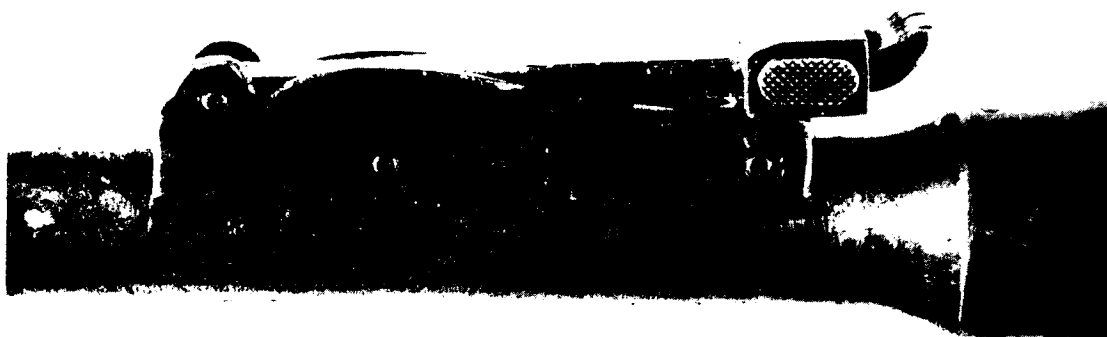
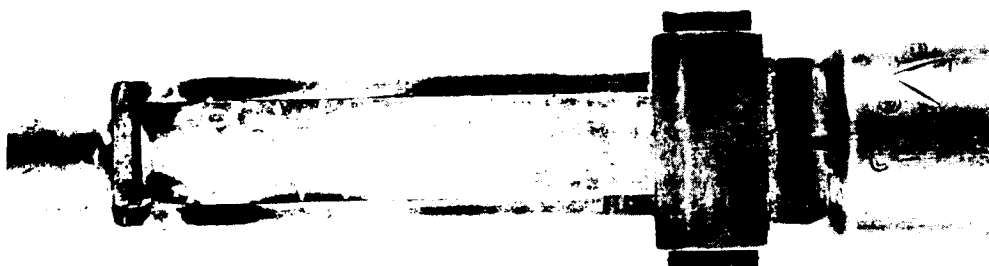

FIGURE 16. REAR SIGHT FOR RIFLE M1891/30 (SIDE VIEW).
FIGURE 17. REAR SIGHT FOR RIFLE M1891/30 (TOP VIEW).
b. The weapon has a curved-ramp tangent-type rear sight (fig. 16). There is no provision for windage adjustment. The sight is graduated from 1 to 20; that is, for ranges of 100 meters to 2,000 meters (fig. 17). The relationship between meters and yards is given below: